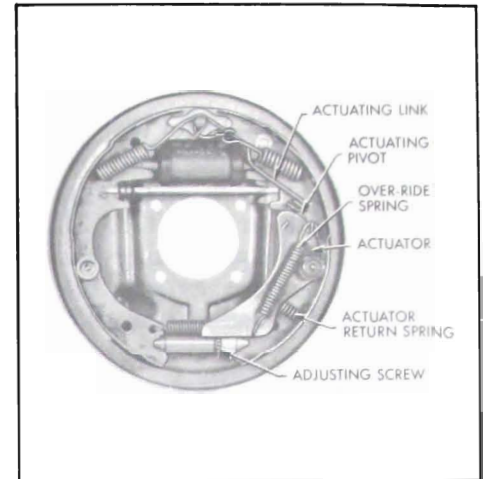

Figure 9-12—Rear Wheel Brake Assembly Left
**NOTE:** It may be necessary to back off the brake shoe adjustment before the brake drums can be removed. To back off shoe adjustment, rotate shoe adjusting screw upward. See Figure 9-12.
6. Separate the brake shoes by removing adjusting screw and lock spring. Remove parking brake lever from secondary brake shoe (rear only). See Figure 9-12.
4. Place brake shoes on backing plate, at the same time engaging shoes with wheel cylinder links. The primary shoe (short lining) goes forward. On rear brakes, connect cable to parking brake lever and install strut and spring between lever and primary shoe as shown in Figure 9-12.
5. Install actuator, actuator return spring and actuating link as shown in Figure 9-12.